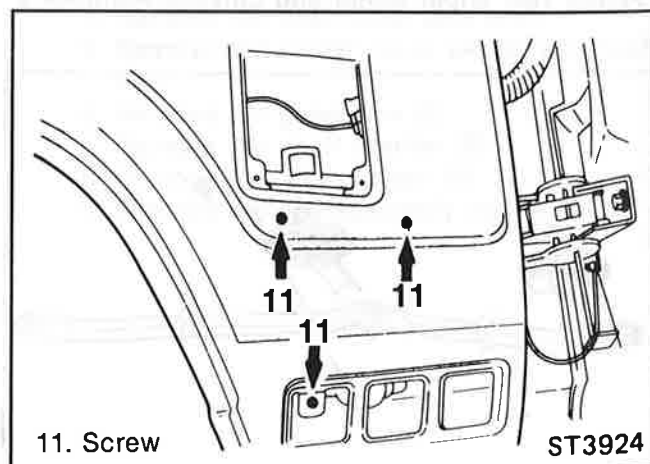

Figure 157. Washer Tank Removal (1)
Remove or Disconnect (Figures 157 and 158)
- Loosen the tank screws (11) (figure 157).